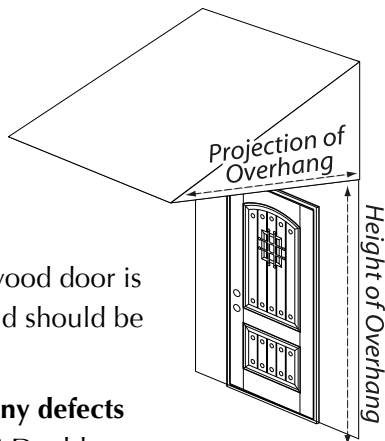

Figure 1
1. Check overhang to ensure adequate protection from weather elements (figure 1). Your new wood door is a piece of furniture and should be treated as such.